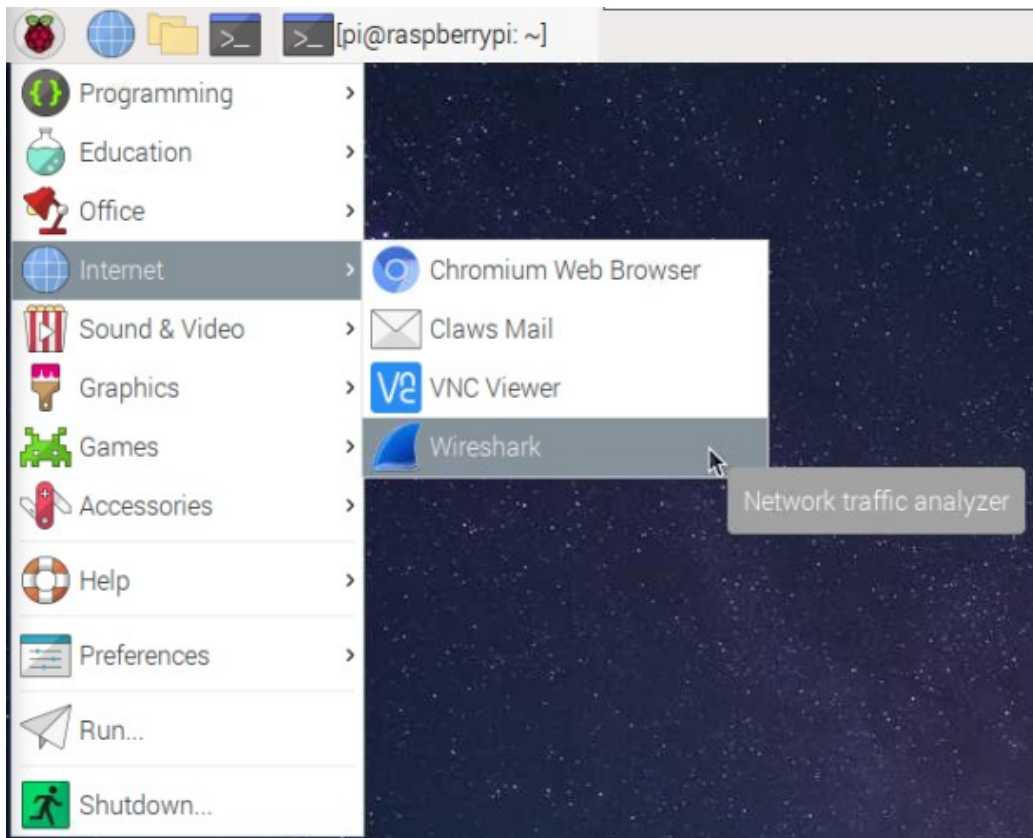

Figure 7.3: Running Wireshark
- From the desktop menu: **Internet** → **Wireshark** (Figure 7.3).